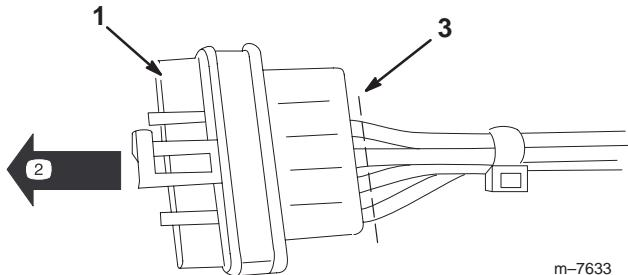

Figure 3
- Cut the wires connecting the female end of the flat, square connector at the base of the connector (Fig. 3).